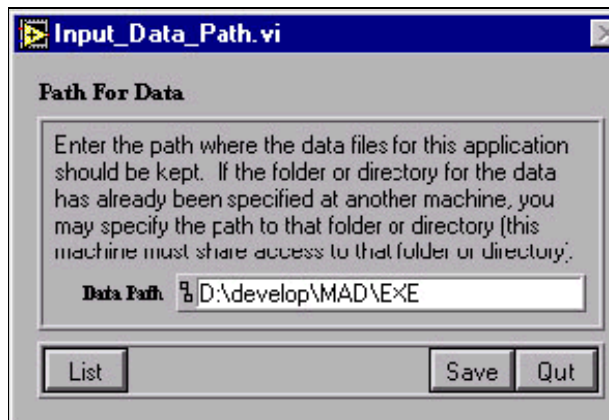

Figure 2. "Input Datapath" window.
| Figure 2. Set data path here. | 3 |
2. Click **OK**. This opens the "Input Datapath" window (see Figure 2).